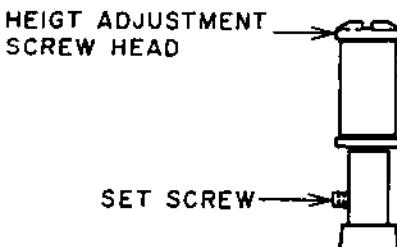

Fig. 5.9
- 1) Slightly loosen the set screw at the lower part of the LOADING LEADERS (L), (R) so that the LOADING LEADER can be adjusted with reasonable tightness. (Refer Fig.5-9)